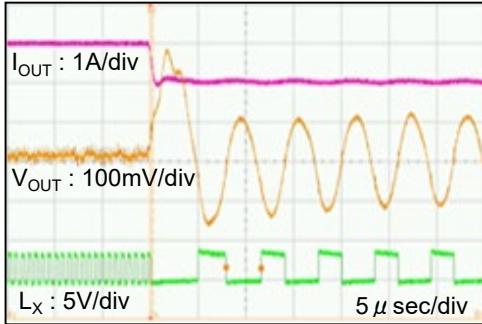
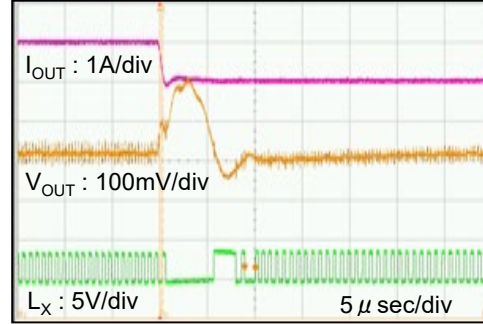
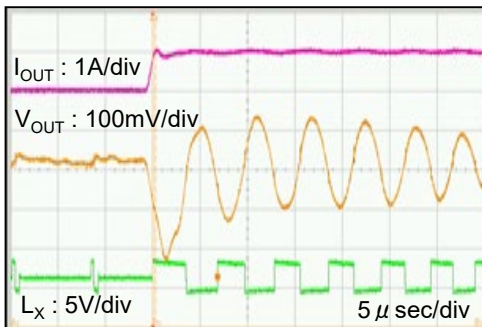

Fig.14-1 Insufficient  $C_L$  ( $T_a = -40^\circ\text{C}$ ,  $C_L = 10\ \mu\text{F}$ )
Fig.14-2 Sufficient  $C_L$  ( $T_a = -40^\circ\text{C}$ ,  $C_L = 20\ \mu\text{F}$ )
Fig.14-3 Insufficient  $C_L$  ( $T_a = -40^\circ\text{C}$ ,  $C_L = 10\ \mu\text{F}$ )
14. If the capacitance value is not sufficient by degrading  $C_L$  due to the low temp. condition and DC bias feature, 100% duty cycle might come up for the load transient condition. Add capacitance value for  $C_L$  if necessary. (Refer to Fig14-1, Fig14-2, Fig14-3, Fig.14-4)